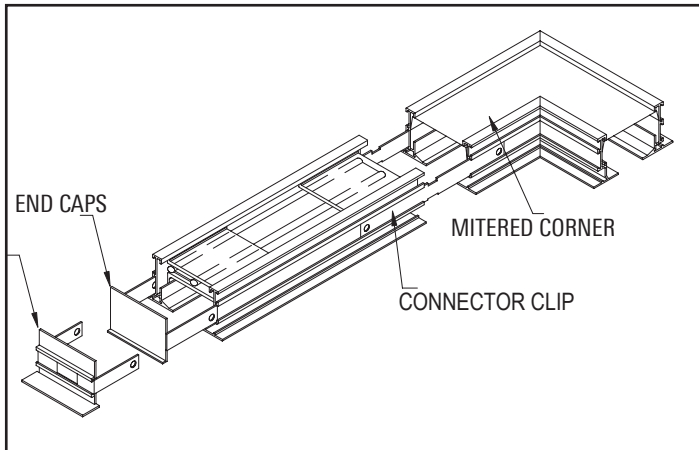

Figure 5. Installation of End Caps & Mitered Corner
□ Install and secure end caps and mitered corners if required as shown in Figure 5.